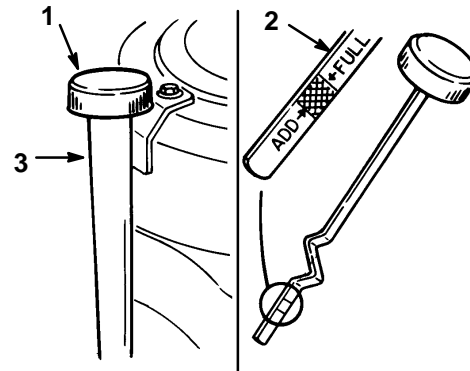

Figure 30
3. Clean around the oil dipstick (Fig. 30) so dirt cannot fall into the filler hole and damage the engine.
4. Unscrew the oil dipstick and wipe the metal end clean (Fig. 30).
5. Screw the oil dipstick fully onto the filler tube (Fig. 30). Unscrew the dipstick again and look at the metal end. If oil level is low, slowly pour only enough oil into the filler tube to raise the level to the "FULL" mark.
- Slowly pour approximately 80% of the specified amount of oil into the filler tube (Fig. 30). Now check the oil level; refer to Checking Oil Level, page 30, steps 4–5.